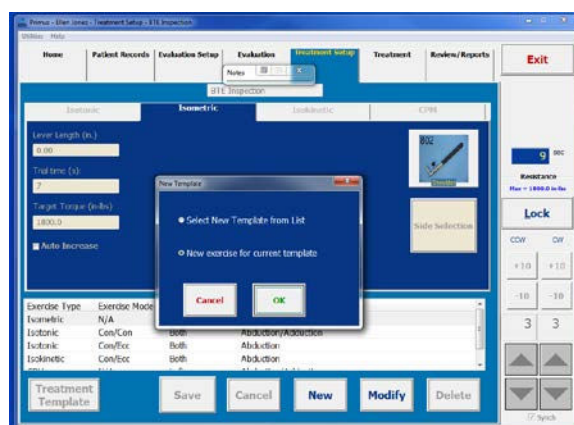

Figure 5b
- Click the "New" button at the bottom center of your screen (Figure 5b).
- a. Click the “New” button at the bottom center of your screen (Figure 5b).